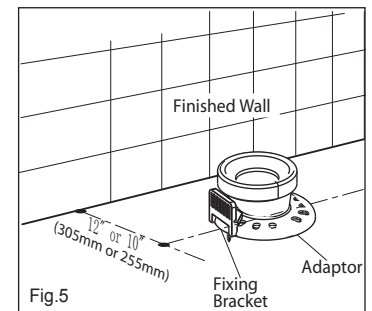

Fig.5
3. Place fixing bracket onto "T" bolt and secure it by hand, tightening nuts and washers onto the "T" bolts. Apply an additional turn for final installation as detailed in Fig.5.